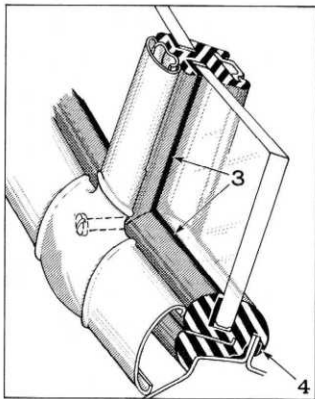
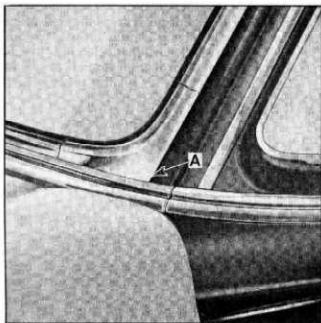

Fig. 18—Sealing after Glass and Channel are in Position
Fig. 19—Corner Reveal Molding Disengagement
8. After the assembly is in position and before the moldings are installed, seal as indicated (fig. 18) using 3-M Weatherstrip Adhesive in a sealing gun.
- a. Seal between outer lip of rubber and glass as indicated at (3), completely around opening.
- b. Before garnish molding is installed, seal under inner pinch-weld lip of rubber channel as indicated at (4).
- Carefully work the windshield assembly outward and upward to disengage the rubber channel lip from the lower pinch-weld flange. On Bel-Air and 210 series bodies, disengage the flange of each corner reveal molding "A" from the belt molding (fig. 19).